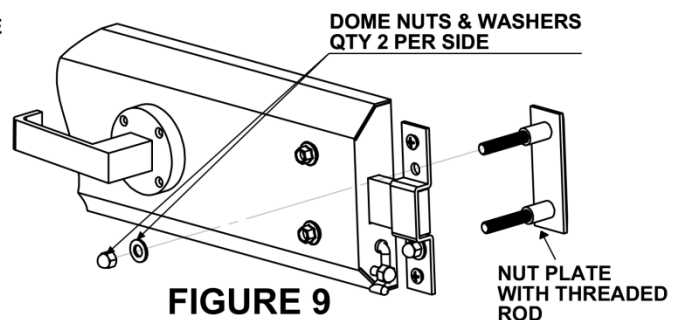

FIGURE 9
22. Fit the nut plates with threaded rod through the frame (from the outside). Run the dome nuts & washers onto the threaded rod & tighten. (Fig. 9)